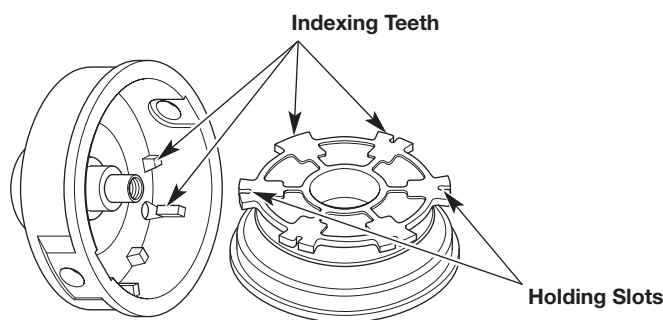

Fig. 13
6. Check the indexing teeth and holding slots for wear (Fig. 13). If necessary, remove burrs or replace the inner reel and outer spool.